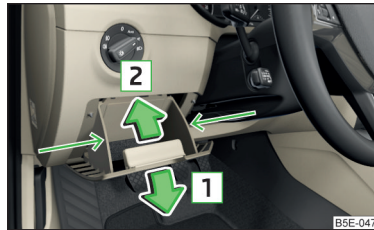

Fig. 219
- Grab hold of the storage compartment in the area of the arrows » Fig. 219.